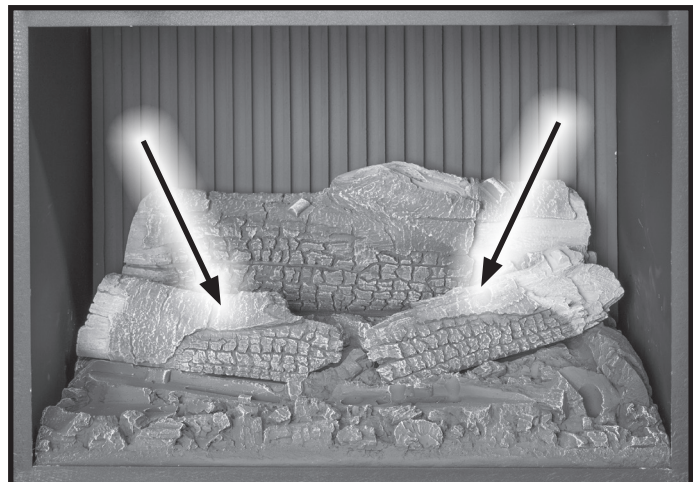

Figure 49. Rear Ember Bed Logs.
4. Next, Install the two large flat bottomed logs in the middle of the ember bed as shown in Figure 49.